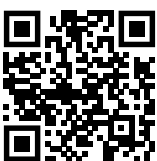

Fig. 84
- ▶ Åpne Liebherr SmartMonitoring Dashboard. (se Fig. 84)